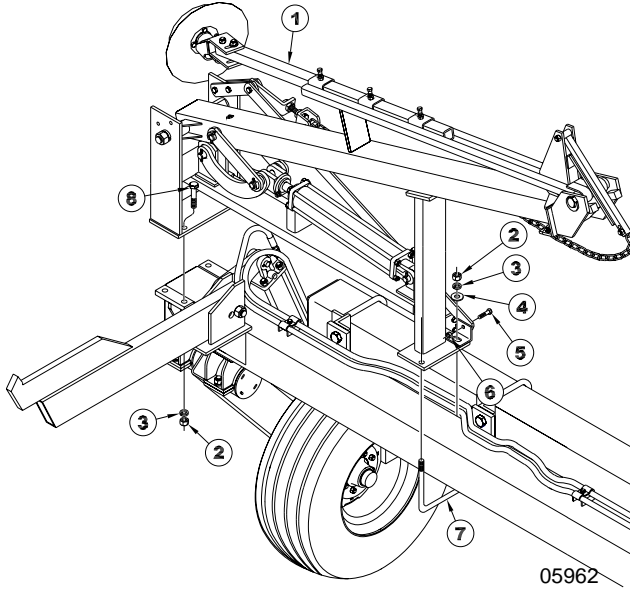

Figure 6
1. Mount the row marker (#1) as shown in Figure 6, to the Xpress Air Drill frame using a 3/4" x 8 3/4" x 7 13/16" u-bolt (#7), a flat washer (#4), lock washer (#3) and a hex nut (#2) on left end of the marker frame.